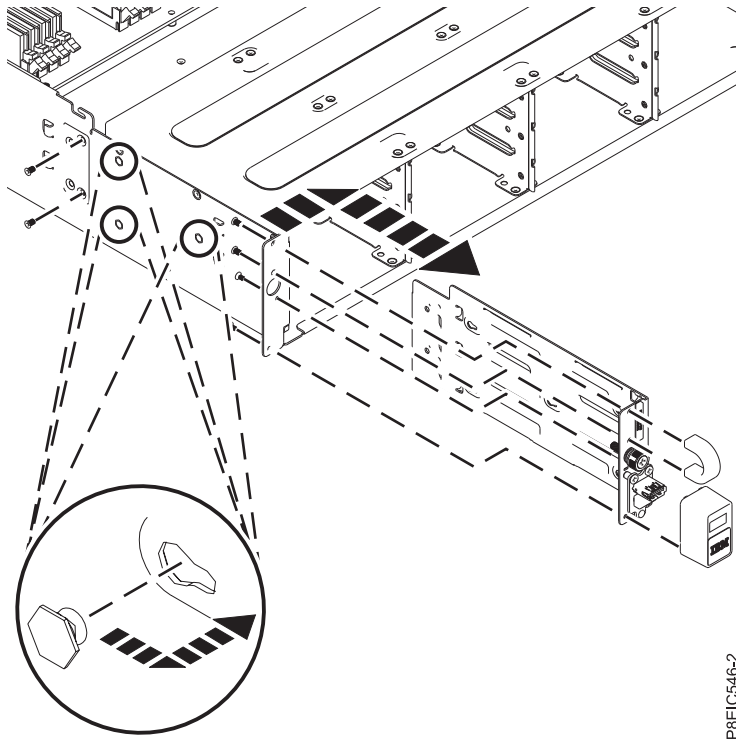

Figure 108. Removing the front USB and cable
5. Remove the four screws that secure the USB bezel and handle to the USB front assembly, as shown in Figure 108 on page 96.
6. Remove the two screws that secure the USB assembly to the side of the chassis, as shown in Figure 108.
7. Pull the USB assembly forward, then detach the USB assembly away from the pins in the side of the chassis, as shown in Figure 108.